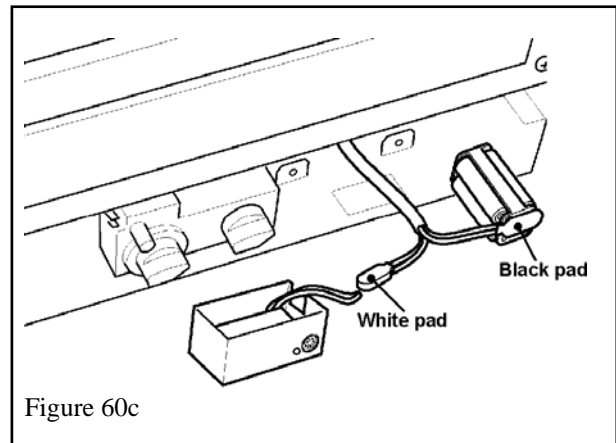

Figure 60c
- Remove the remote control receiver lid. Remove the cover from the **white** connection pad. Fit this connection pad to the remote control receiver terminals. See figure 60c.
- Fit the **black** connection pad to a battery box. Fit four 1.5V batteries. See figure 60c.